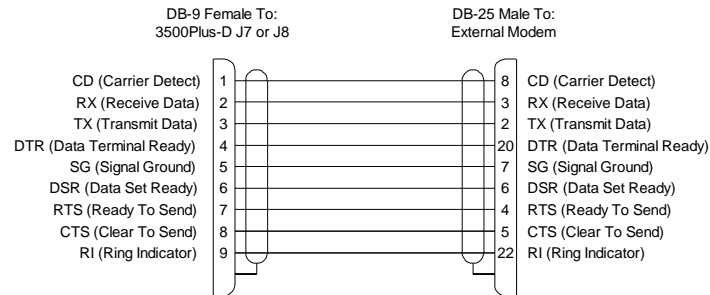

Figure 45: 3500Pro-D RS-232 CPU Link (AT Serial Modem) Cable
- COM 1 may also be connected to an external modem using an AT Serial Modem cable (Part No. 81-9028-0400-0). If necessary, a cable up to 50 feet in length may be fabricated in the field as shown in Figure 45.